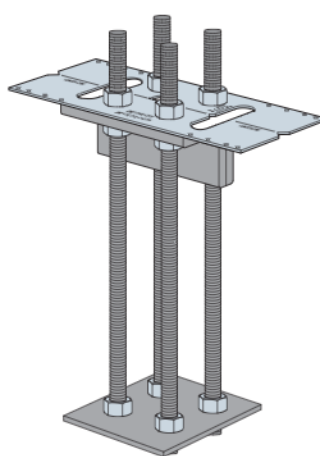

Figure D8.1 —
1. MFSL — The MFSL anchorage assembly comes with a preattached shear lug, so no field-bent ties or hairpins are required for shear capacity (see Figure D8.1).